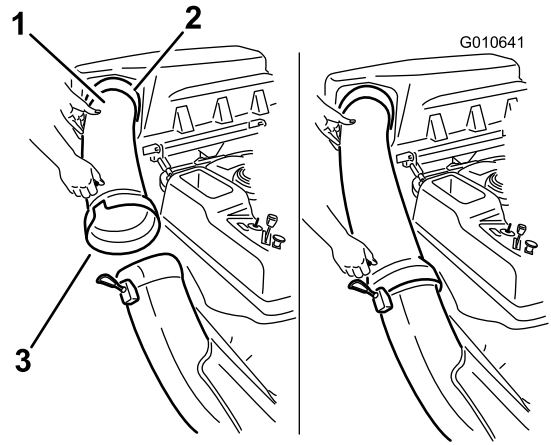

Figure 20
- Slide the curved end of the discharge tube into the opening in the bagger top (Figure 20).
- Slide the flared end of the discharge tube over the end of the chute. Move the rubber retaining strap on the chute snaps over the peg on the discharge tube to secure it (Figure 20).